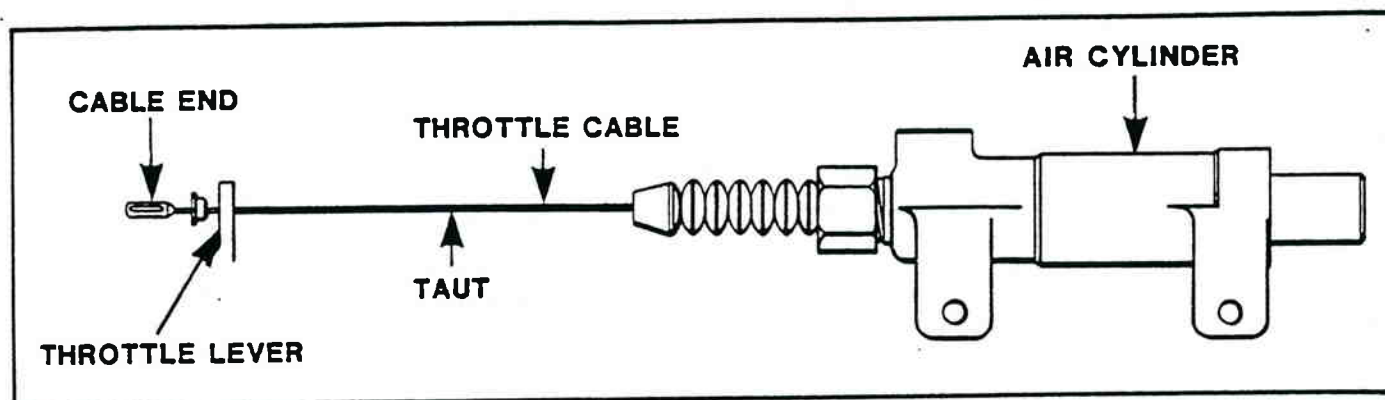

Figure 9-19. Throttle Cable Adjustment.
1. Install two mounting screws and reconnect the potentiometer (7) electrical connector. Mounting screw torque is not to exceed 125 in. lbs. (14.123 Nm).
2. Reconnect the air line to the cylinder body (8).
3. Reconnect the cable nut to the piston rod assembly (1). Torque not to exceed 100 in. lbs. (11.29 Nm).
5. Reconnect the cable assembly at the engine throttle lever. Using the air cylinder mounting screws, move air cylinder and adjust the throttle cable (figure 9-19) so that it is taut when the accelerator pedal is released. Cable nut torque not to exceed 175 in. lbs. (19.772 Nm).